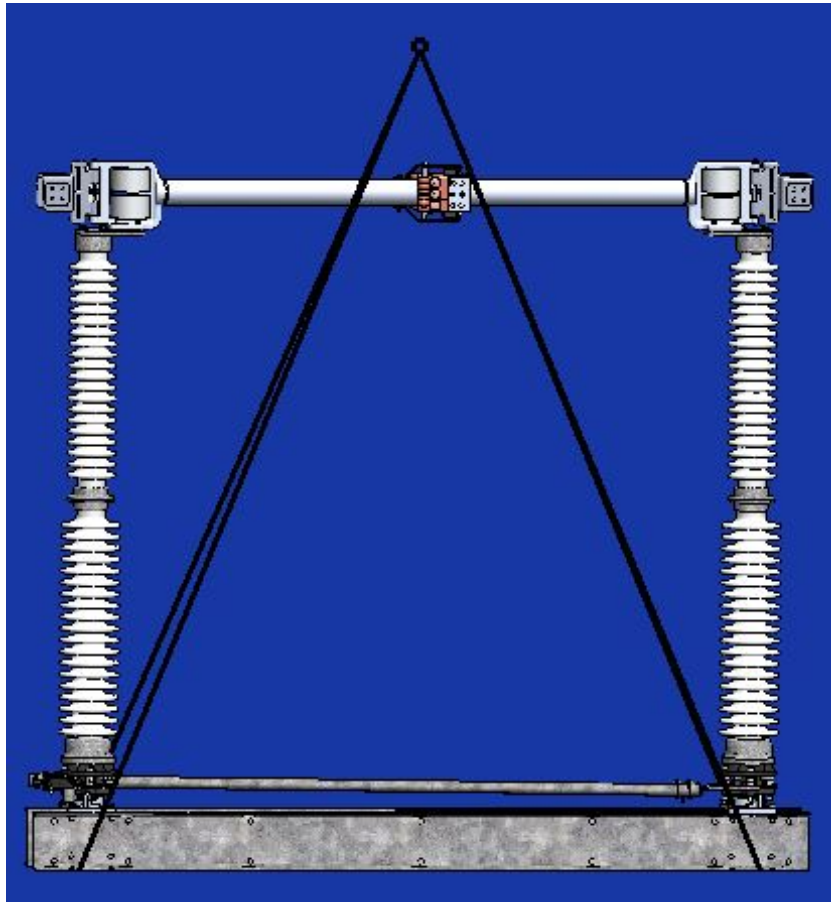

Figure 16: Sling Attachment
2. Assemble the switch pole on the ground and hoist it to the structure as a complete unit. **CAUTION:** To prevent overturning during assembly, the switch base must be securely attached to a level, stable platform. **CAUTION:** Lift fully assembled pole unit by the base only. **DO NOT lift the pole unit by the live parts.** Refer to **Figure 16.**
4. Lift the assembled switch by the switch base only. Refer to **Figure 16**.